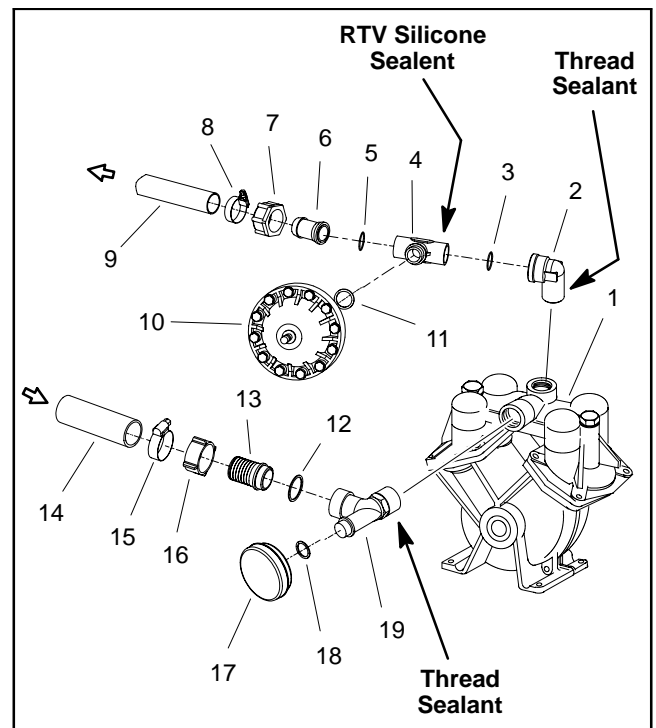

Figure 9
3. Remove lock nuts, flat washers, cap screws and coupling spacers that secure rubber couplings to pump hub (item 22).
7. For assembly purposes, matchmark fittings at pump inlet and outlet to make sure that the fittings will be properly aligned during pump installation. Also, matchmark position of tee fitting (pressure) (item 4 in Fig. 9) at elbow (pressure).
8. Remove pressure dampener, tee fitting (pressure) and elbow (pressure) from pump outlet (Fig. 9). Discard removed gasket.
9. Remove suction dampener and tee fitting (suction) from pump inlet (Fig. 9). Discard removed O-ring and seal.
1. Apply thread sealant to threads of elbow (pressure) and install elbow into pump outlet (Fig. 9). Use matchmark made during pump removal to properly orientate elbow.
2. Apply RTV silicone sealant to threads of tee fitting (pressure) that will thread into elbow (pressure) and install fitting into elbow (Fig. 9). Use matchmark made during pump removal to properly orientate tee fitting. Install pressure dampener (with new O-ring) and hosebarb (with new gasket) to tee fitting.
3. Apply thread sealant to threads of tee fitting (suction) and install fitting into pump inlet (Fig. 9). Use matchmark made during pump removal to properly orientate tee fitting. Install suction dampener (with new O-ring) and hose barb (with new seal) to tee fitting.